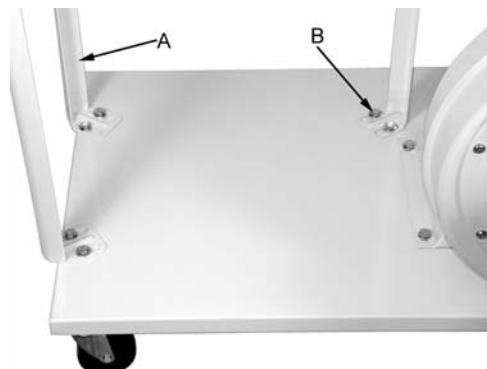

Figure 4
5. Attach three *support legs* (A, Fig. 4) to the base using six M8 x 16 hex cap bolts and six M8 flat washers (B, Fig. 4). Hand-tighten only at this time.